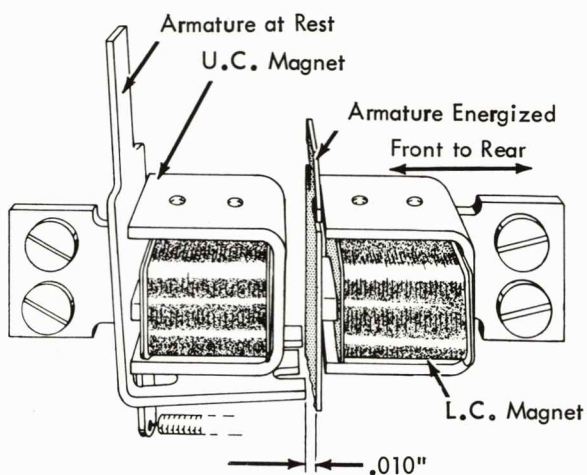

FIGURE 36. LC Magnet Assembly (Front to Rear)
- a. Front to Rear - LC armature (energized) clears the UC armature (at rest) by .010" (Fig. 36).